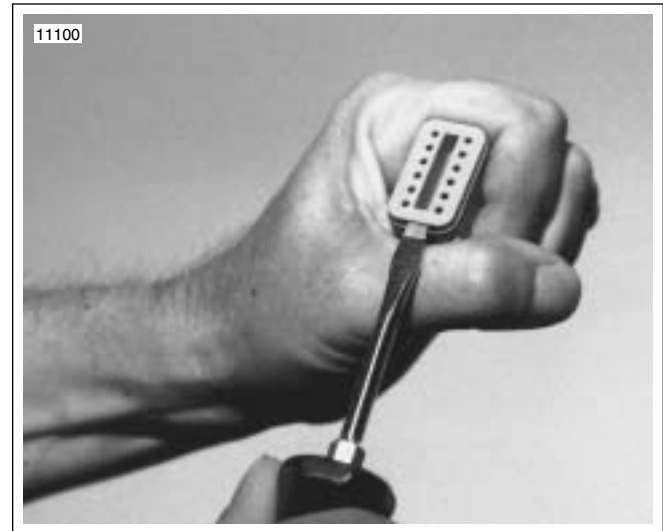

Figure 5-6. Remove Secondary Locking Wedge
1. See Figure 5-6. Remove the secondary locking wedge. Insert the blade of a small screwdriver between the socket housing and locking wedge inline with the groove (inline with the terminal holes if the groove is absent). Turn the screwdriver 90 degrees to pop the wedge up.